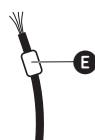

Fig. 5 Plastic spacer
- 7 Put a plastic spacer **E** on the end of the string (Fig. 5) and press it gently into position in the membrane.